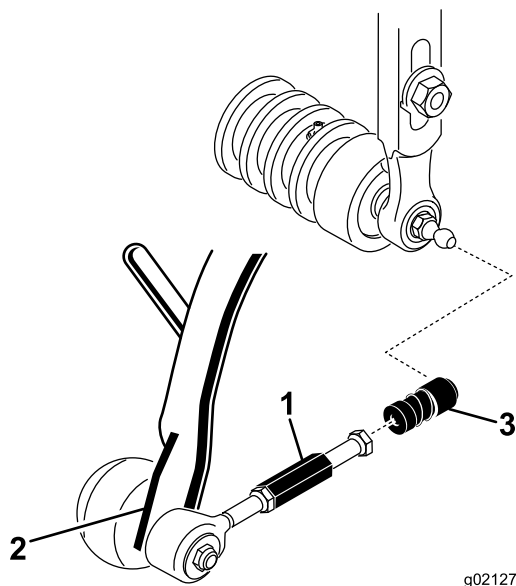

Figure 10
3. Slide the sleeve back on each ball joint receiver and hook the receiver onto the cutting unit ball stud (Figure 10).